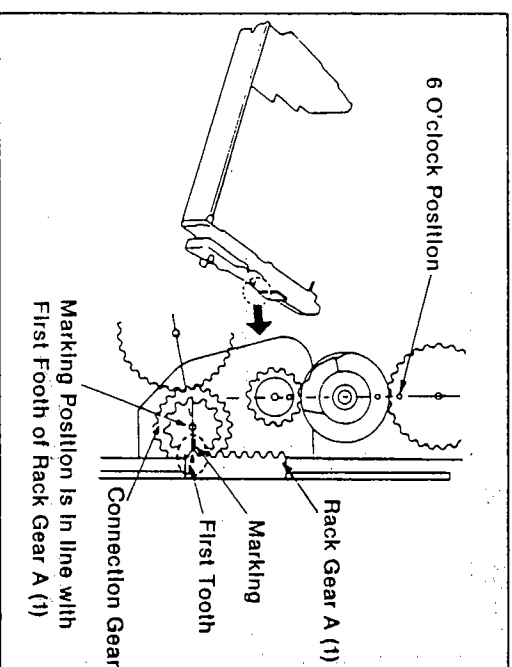

Figure M59
3. Put the Sub Wiper Arm (R) in its full down position (Sub Wiper Arm should rest on plastic protrusion on the bottom of the right side plat).
4. Install the cassette compartment (without cassette holder) to chassis so that the rectangular marking (or slot) on the connection gear should be line up with first tooth of the Rack Gear as shown in Figure M59 and M60.